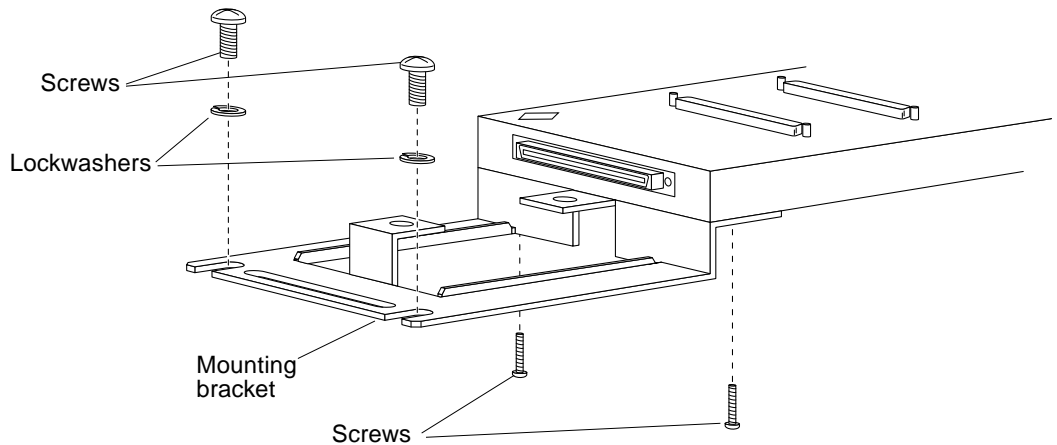
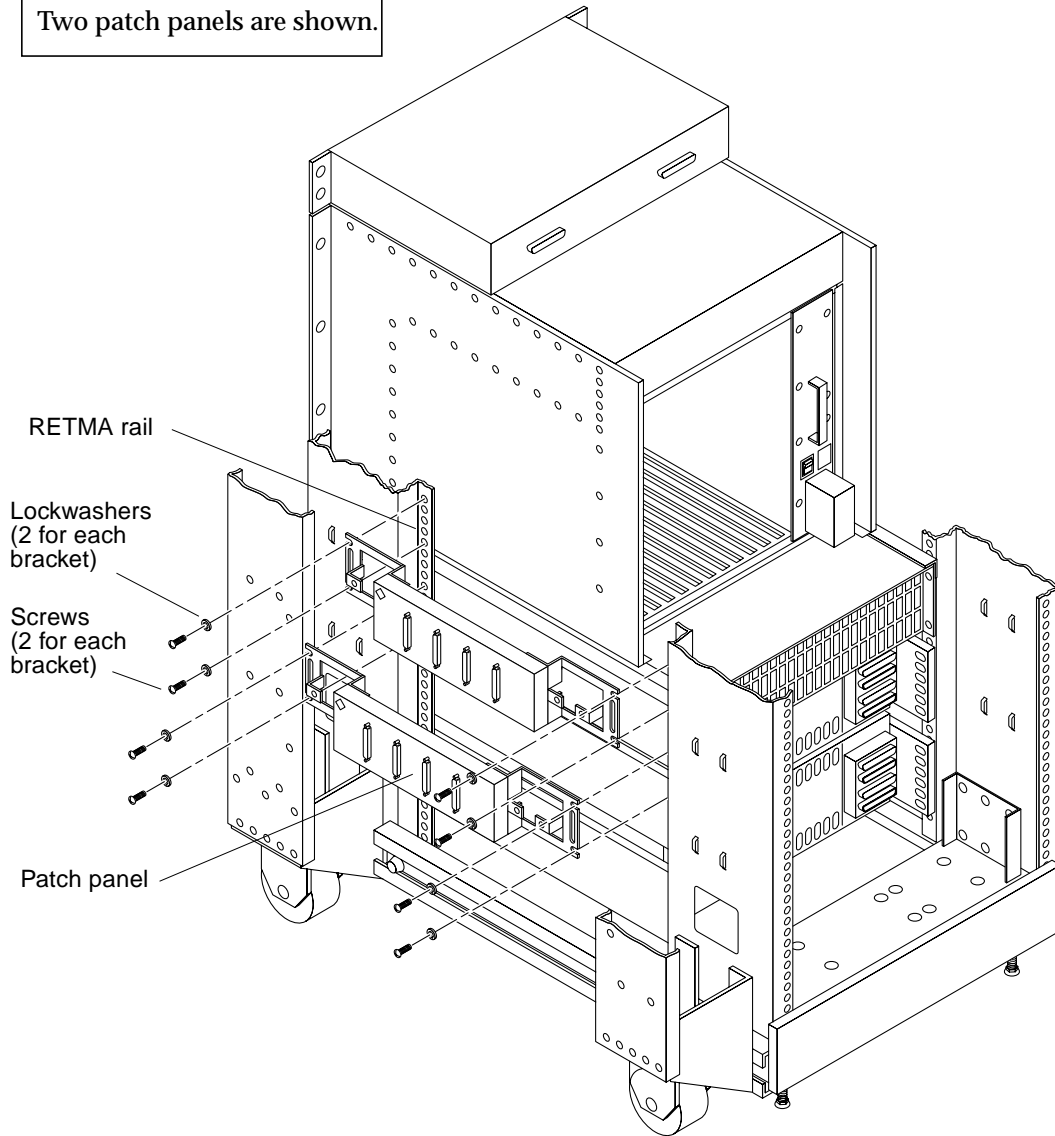

FIGURE 2-4 Attaching the SPARCserver 690MP Mounting Bracket
FIGURE 2-5 Installing the Patch Panel Assembly in a SPARCserver 690MP
1. Remove the screws that secure the four rubber feet to the bottom of the patch panel (FIGURE 2-4).
4. Secure the patch panel assembly to the RETMA rails with four screws and lockwashers at the location(s) shown in FIGURE 2-4 and FIGURE 2-5.